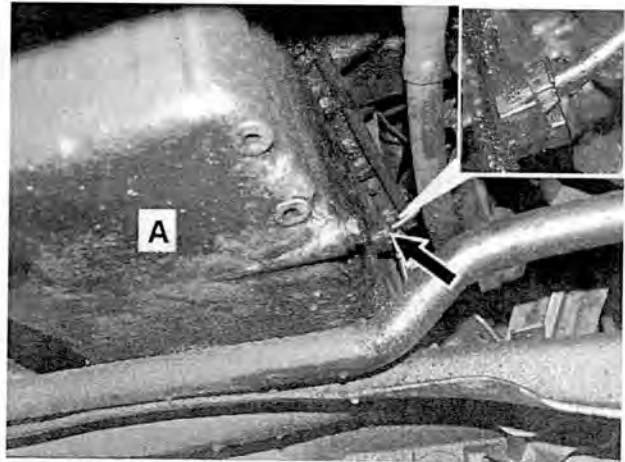

Figure 16
31. Disconnect harness connector (arrow, Figure 16) from oil level sensor in oil pan (A).